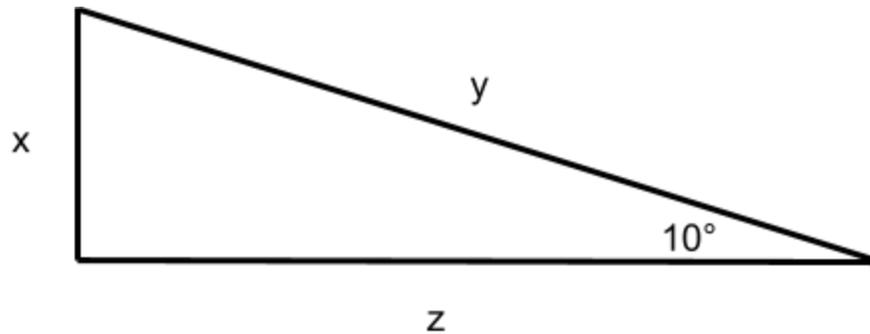

Figure 25. The right triangle that needs to be set up to determine necessary notch position based on your handlebar length and height measurements.
3. Draw a right triangle with a 10° incline, with your known handlebar length measurement (z) set as the bottom length of the triangle, as seen in the example below in Figure 25.